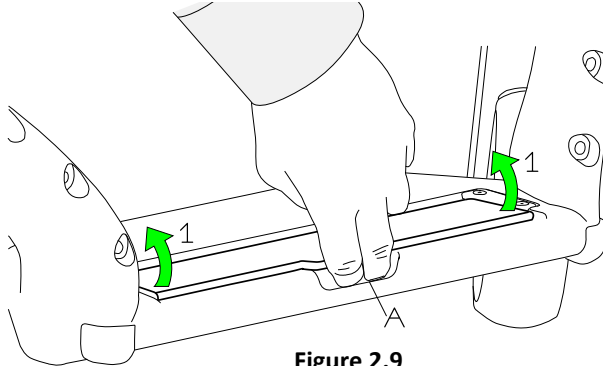

Figure 2.9
To increase the foot angle beyond the horizontal (raising toes) [Fig. 2.9]:
- Using the lip under the foot angle adjuster (Fig 2.9, A), prise the flap up into desired position (Fig 2.9, 1).